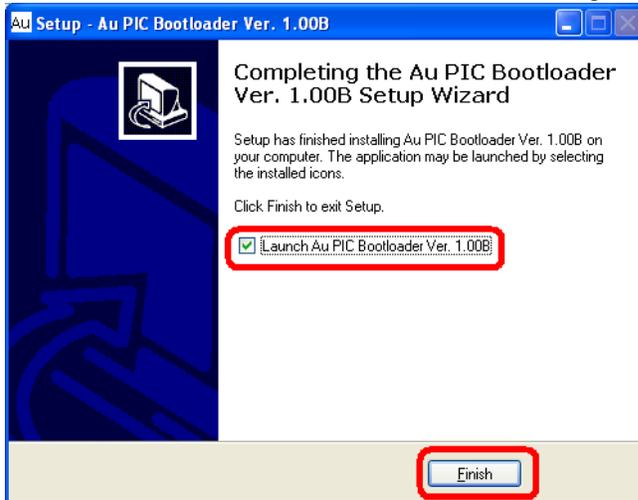

Figure B-8
- 8. After a few seconds, "Completing the Au PIC Bootloader Setup Wizard" window shows up, check "Launch Au PIC Bootloader Ver. 1.00B", click "Finish" to exit setup (Figure B-8).